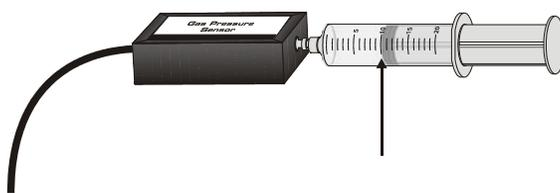

Figure 1
2. Position the piston of a plastic 20 mL syringe so that there will be a measured volume of air trapped in the barrel of the syringe. Attach the syringe to the valve of the Gas Pressure Sensor, as shown in Figure 1. A gentle half turn should connect the syringe to the sensor securely. **Note:** Read the volume at the front edge of the inside black ring on the piston of the syringe, as indicated by the arrow in Figure 1.